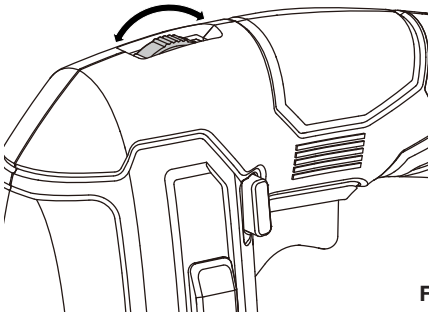

Figure 9
4. VARIABLE SPEED CONTROL (SEE FIG. 9)